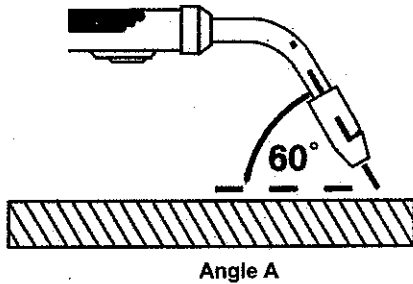

Figure 9. Gun Position, Angle A
1. Angle A (Figure 9) can be varied, but in most cases the optimum angle will be 60